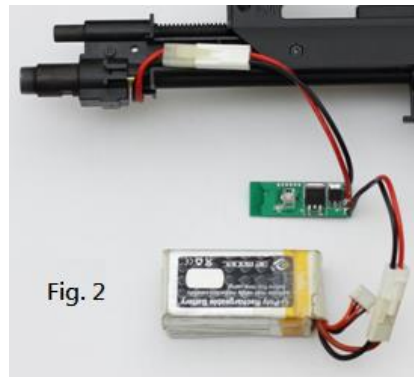

Fig. 2
3. Connect the X3300SCU to the AEG's Battery (Fig. 2) - (optional).